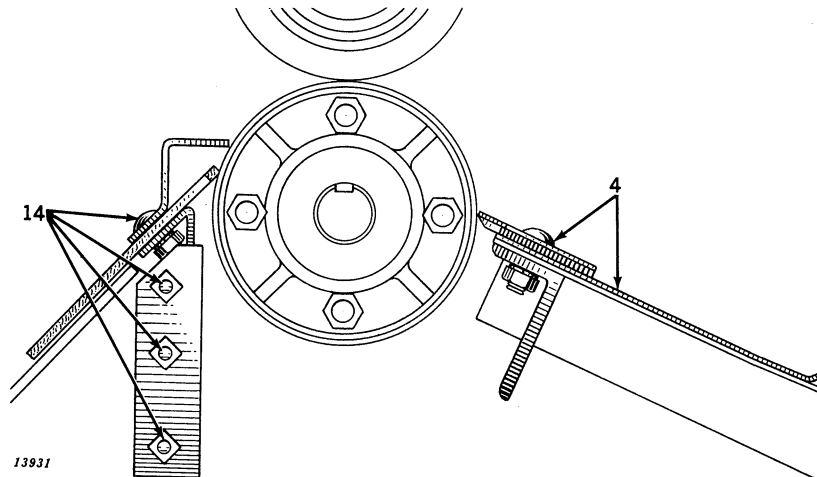

Figure 5
4. (Figure 5) Replace plate at front of concave with new one furnished. After lower flax roll has been installed adjust plate for clearance at same time adjusting end plates to completely seal corners.
14. (Figures 5, 6, and 7) Bolt lower roll seal to right-hand and left-hand sides as shown. Adjust so that seal just clears lower roll.